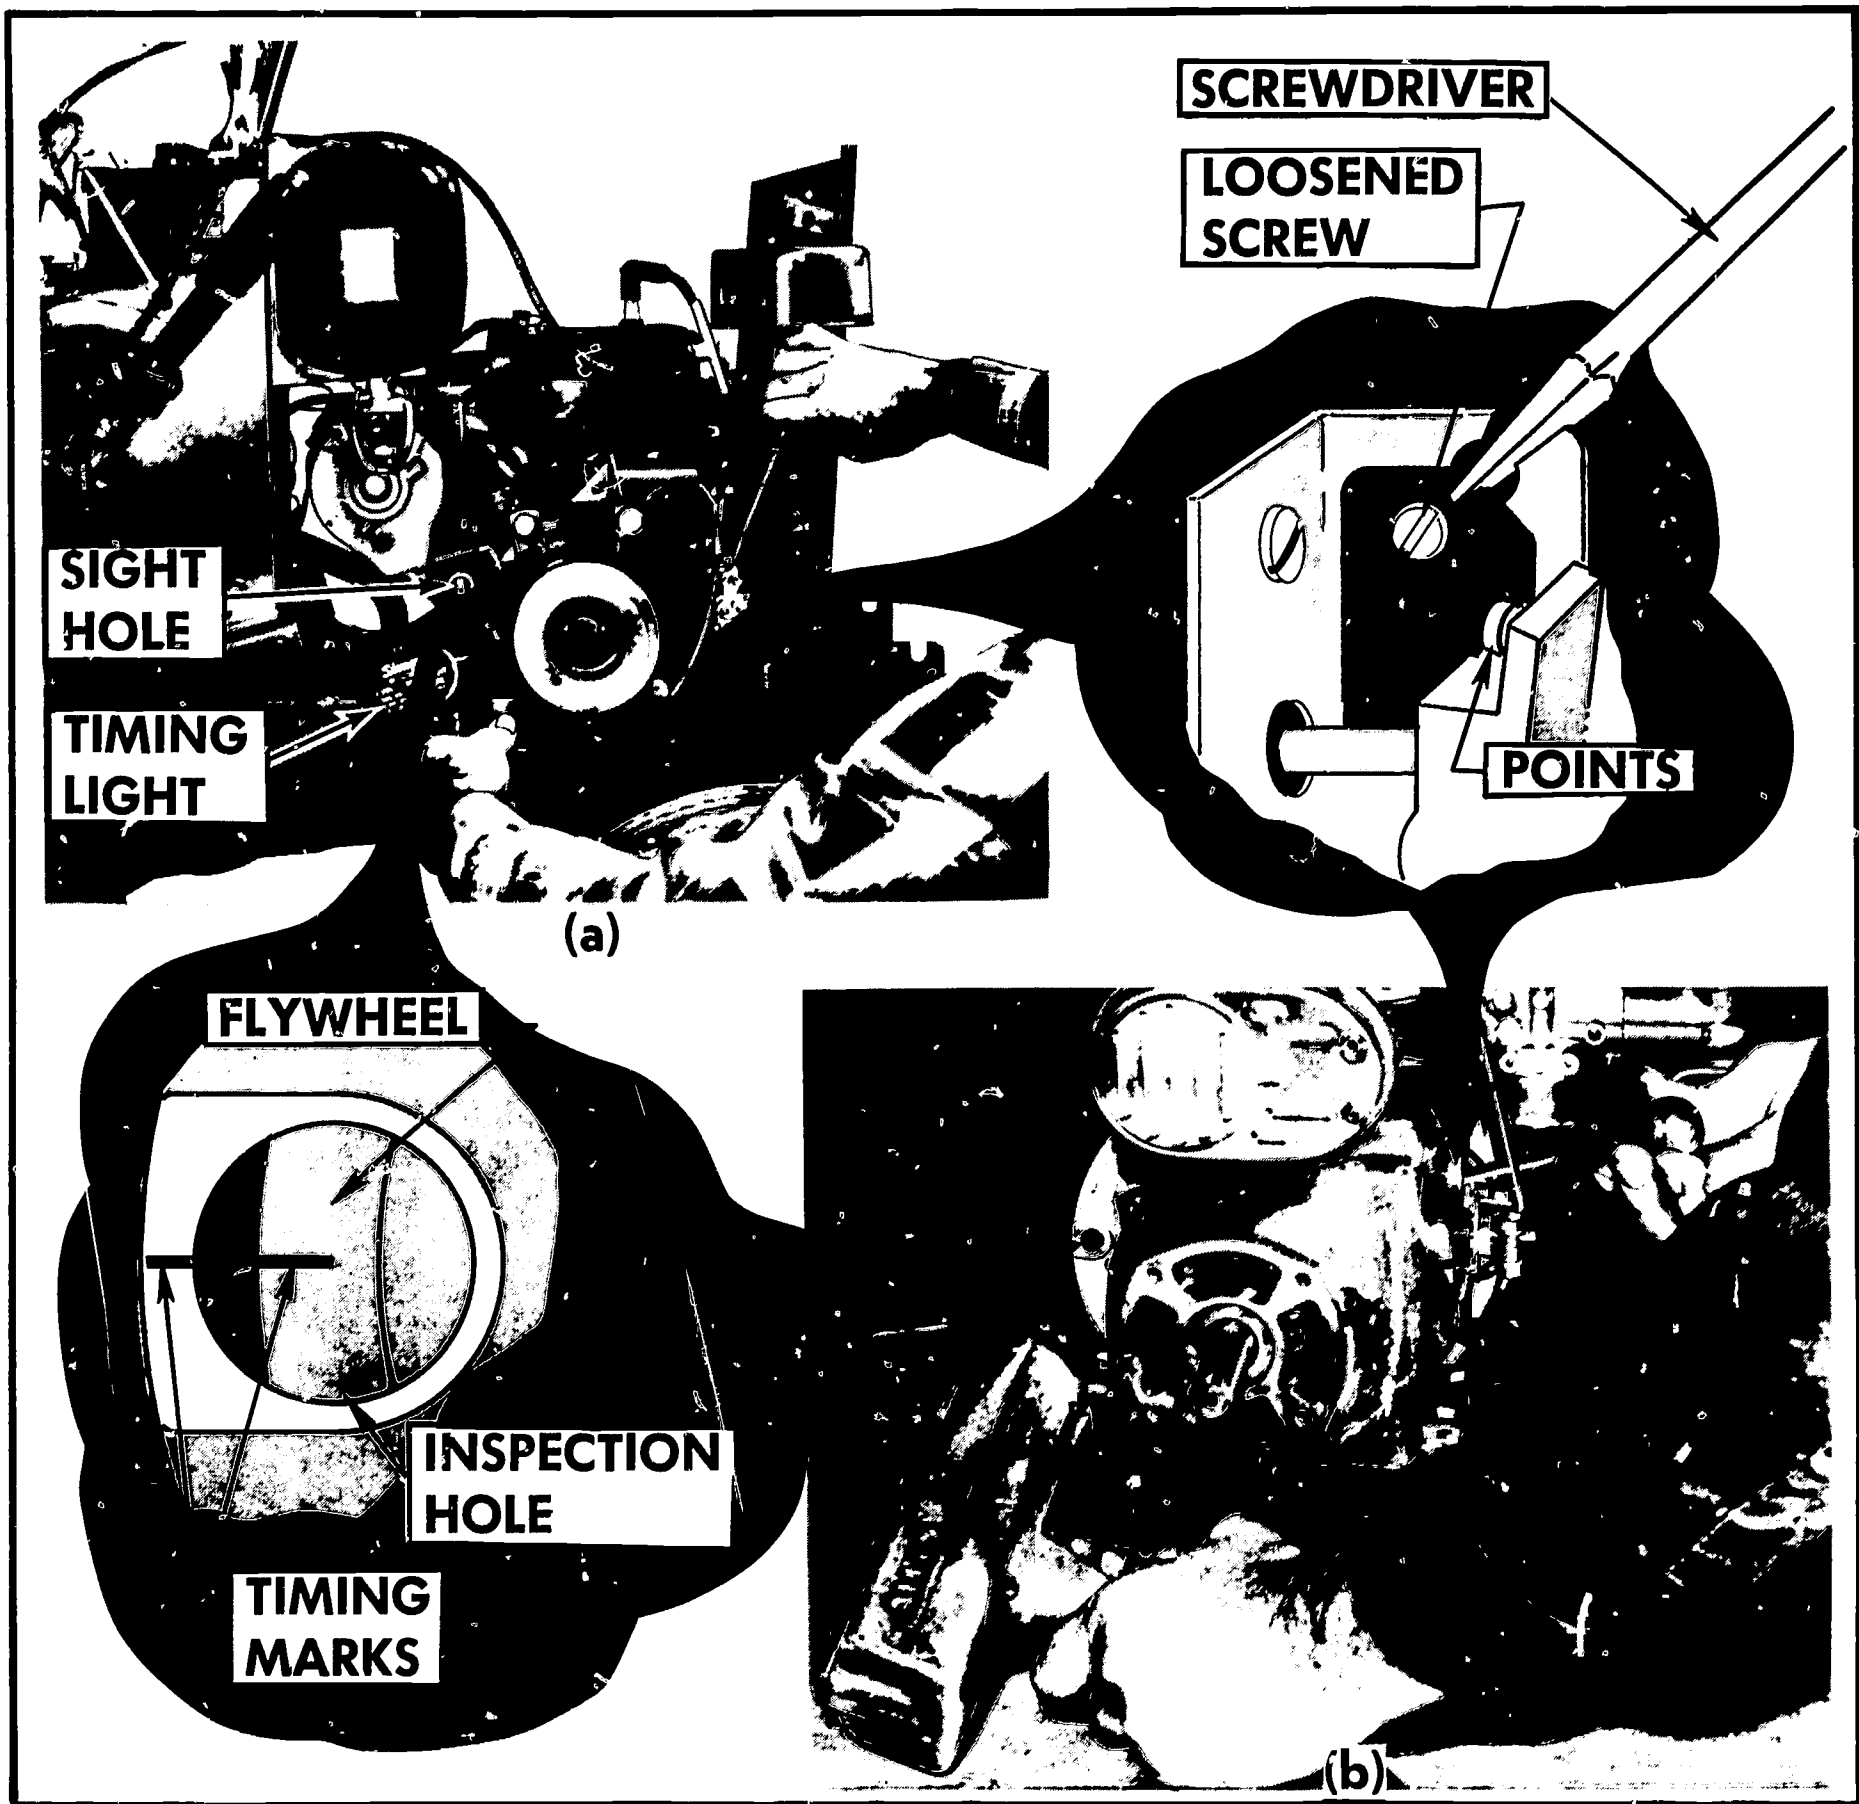

FIGURE 111. Checking the ignition timing with a neon timing light. (a) Engine installed on a tractor. (b) Engine mounted on a test stand.
A neon timing light (Figure 111) is a specially designed neon light which flashes when the points open. With the flash directed to the timing marks you can tell if the points are opening at the proper time when the engine is running.
- b. If you adjust the breaker-point timing with a **neon timing light** (Figure 111), proceed as follows: